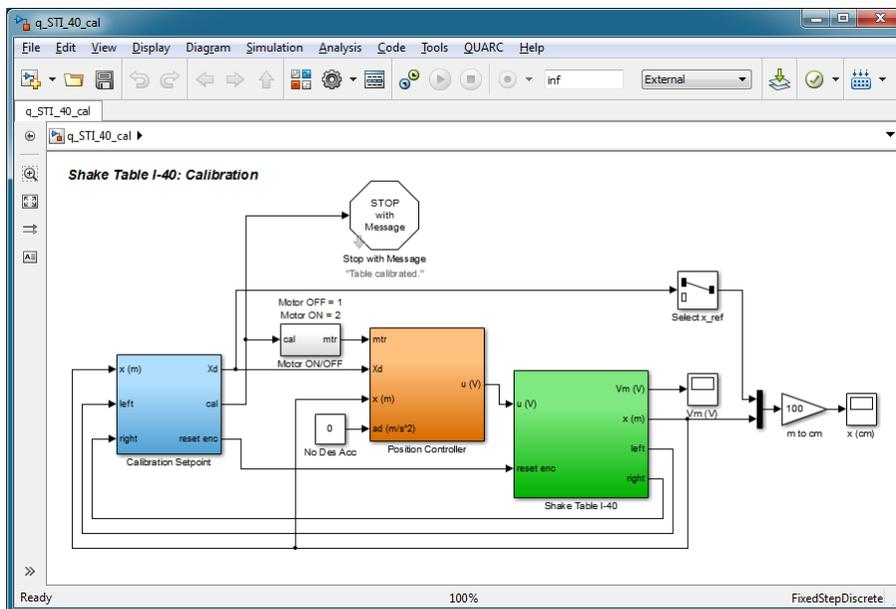

Figure 3.1: Simulink diagram used with QUARC to calibrate STI-40 device
1. Follow the steps given in Section 5 for the `q_STI_40_cal` Simulink diagram, shown in Figure 3.1.